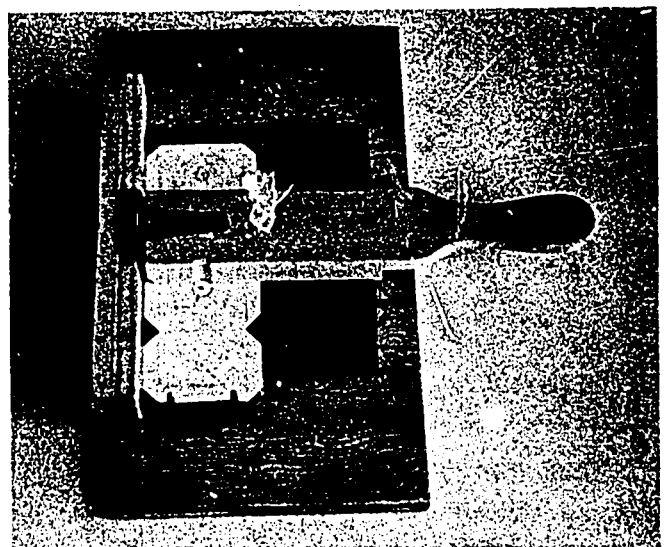

Fig. 150-1. Drill Jig 149-1 with Stock in Place
*See Fig. 150-1 for use of drill jig 149-1, drilling the base top. These are made from $\frac{3}{4}$ " scrap plywood and lumber.